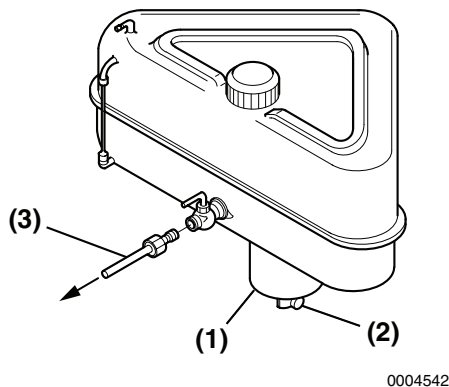

Figure 4-4
2. Put a container under the drain cock (Figure 4-4, (2)) to catch fuel.